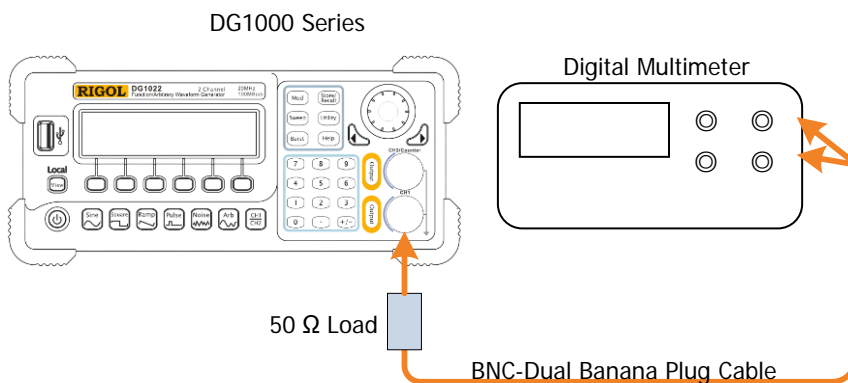

Figure 2-2 Connect DG1000 and the Digital Multimeter via the 50 Ω Load
1. Connect the 50 Ω load to CH1 of DG1000; connect the 50 Ω load and the voltage input terminals of the digital multimeter using the BNC-Dual banana plug cable as shown in Figure 2-2.